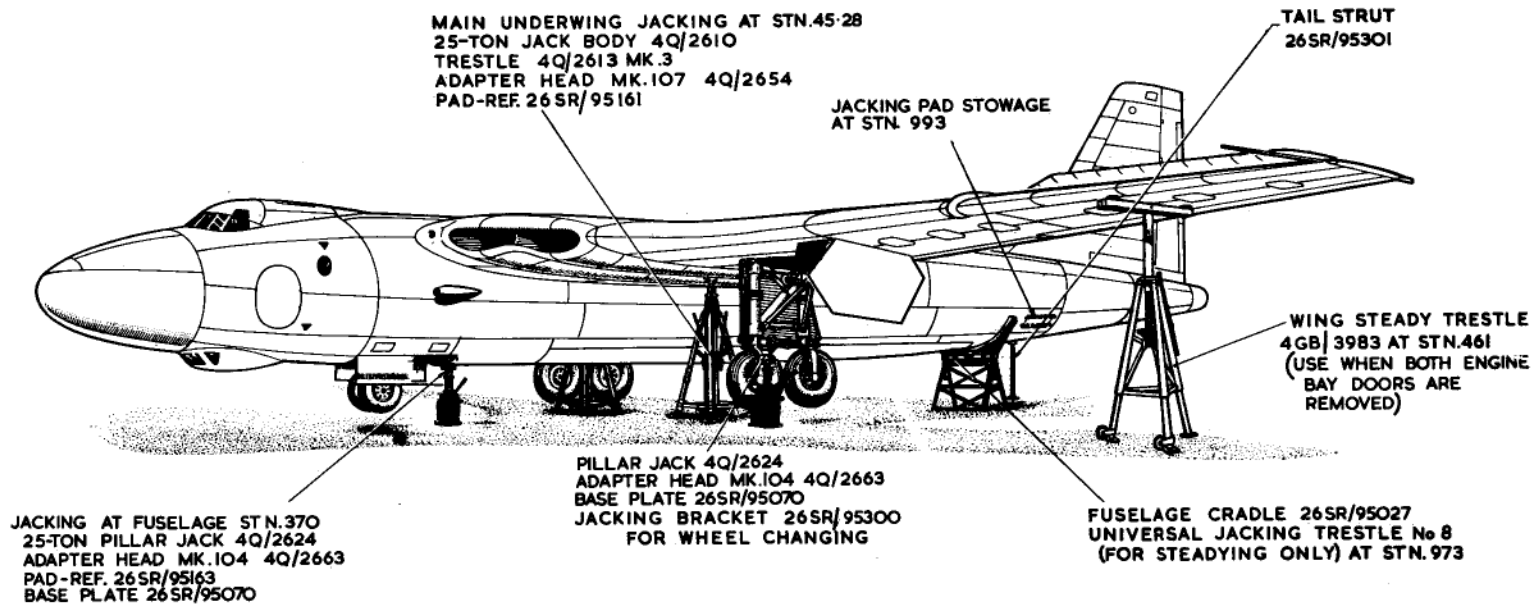

Fig. 1. Jacking and trestling
9. The method of aircraft jacking and trestling for normal servicing is shown in fig. 1, jacking for salvage operations being covered in Sect. 2, Chap. 1; jacking and